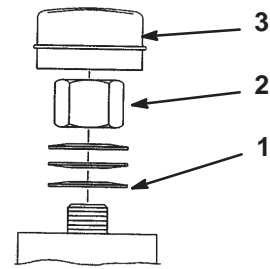

Figure 44
2. Remove dust cap from caster and tighten lock nut (Fig. 44).
3. Tighten until spring washers are flat and then back off a 1/4 turn to properly set the pre-load on the bearings (Fig. 44).
Important Make sure spring washers are installed correctly as shown in figure 44.